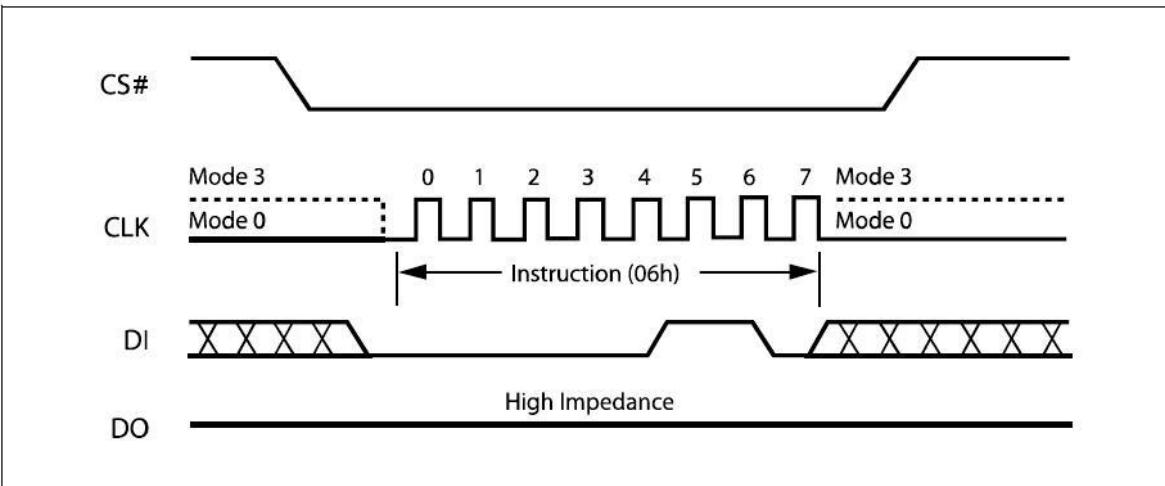

Figure 8. Write Enable Instruction Sequence Diagram
The Write Enable (WREN) instruction (Figure 8) sets the Write Enable Latch (WEL) bit. The Write Enable Latch (WEL) bit must be set prior to every Page Program (PP), Quad Input Page Program (QPP), Sector Erase (SE), Block Erase (BE), Chip Erase (CE) and Write Status Register (WRSR) instruction.